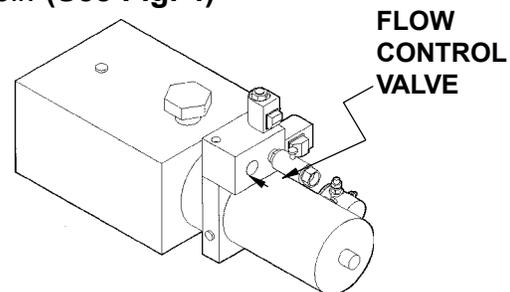

FIGURE 4
9. Check the Flow Control Valve. The arrow on the valve shows the direction of flow that is restricted, and Must point back to the Reservoir. **(See Fig. 4)**